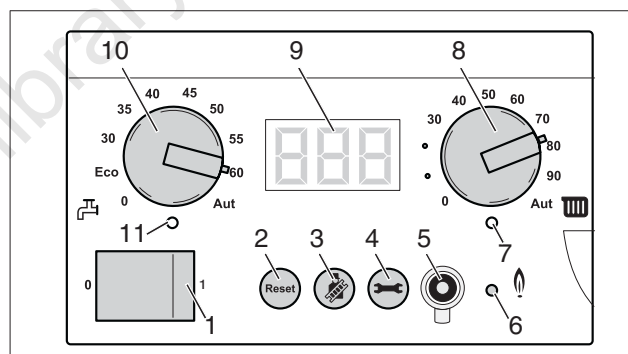

fig. 134 BC10 basic controller
- Switch on the heating system by pressing the mains switch of the Logamatic BC10 basic controller (fig. 134, **item 1**).